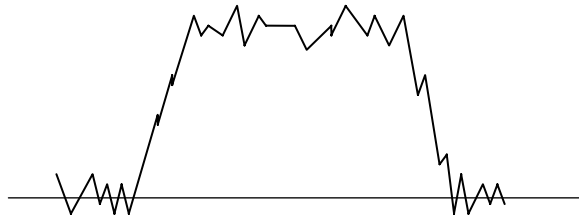

Figure 1 Measurement data after tilt compensation
- A. Compensates the tilt according to the indication of the tilt compensation of the measurement condition. (See Figure 1.)